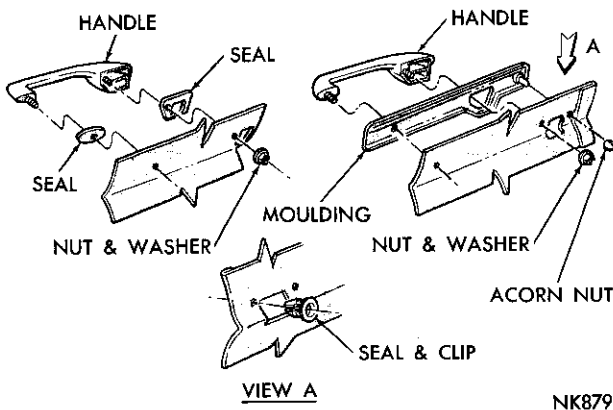

Fig. 55—Outside Handle (Chrysler)
- (1) Remove the inside handles, arm rests, trim panel, escutcheon springs and watershield.
- (2) With the door glass in the up position, remove the door handle attaching nuts from the mounting studs and the link (Fig. 55) from the handle to lock, through the upper access hole of the inner door panel.
- (3) Lift the handle up and remove from the door.
- (4) Install the outside handle into the door opening. Engage the link from the handle to the lock.
- (5) Attach the retaining nuts and test the operation of the handle.
- (6) Reinstall the watershield, escutcheon, spring, trim panel, inside handles and arm rest.